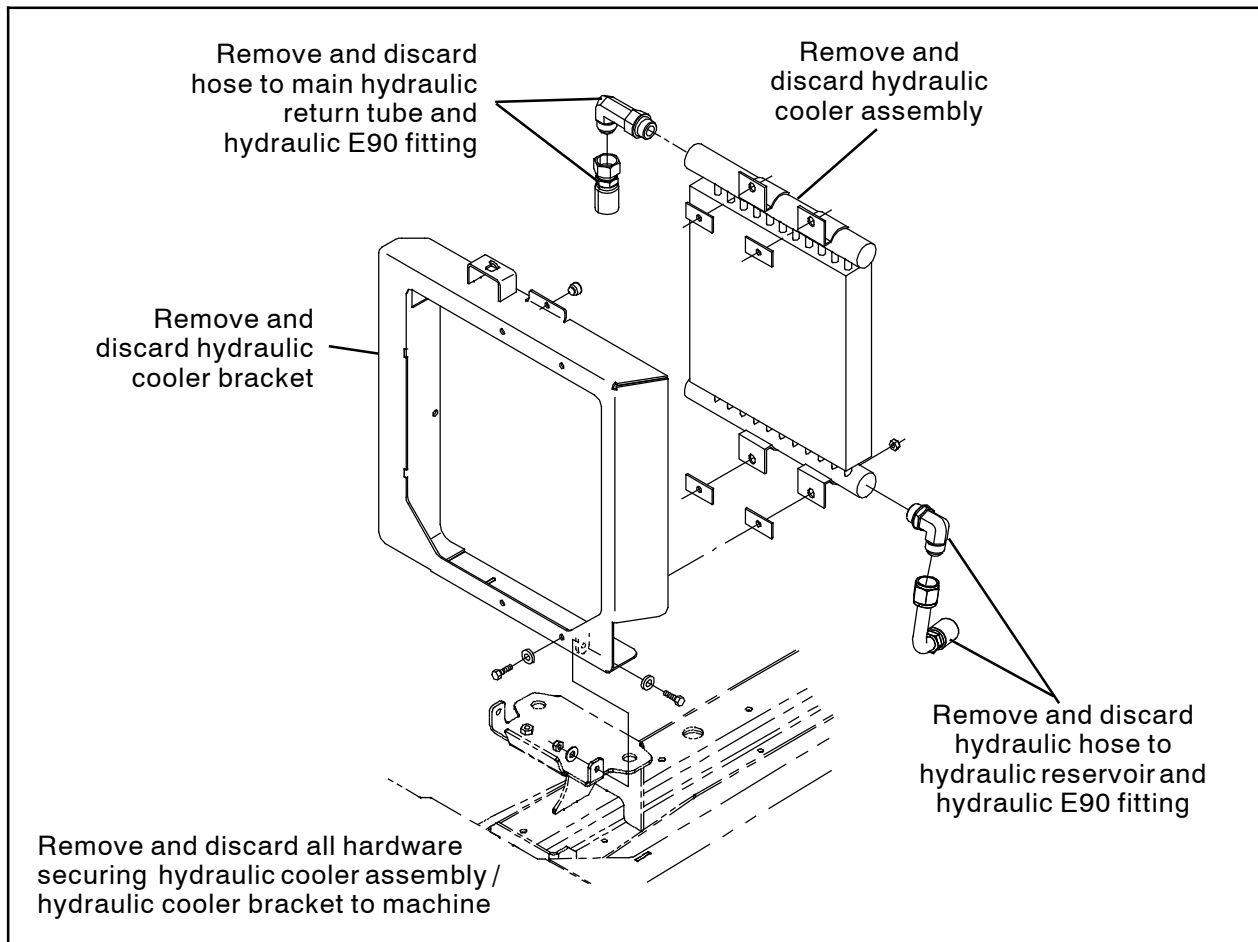

FIG. 2
6. Disconnect the hydraulic reservoir hose and the main hydraulic return tube hose from the hydraulic cooler. (Fig. 2)
7. Remove the hydraulic cooler assembly from the machine. Discard the hydraulic cooler assembly. (Fig. 2)
8. Remove both hydraulic hoses disconnected from the hydraulic cooler from the machine. Discard both removed hydraulic hoses. (Fig. 2)